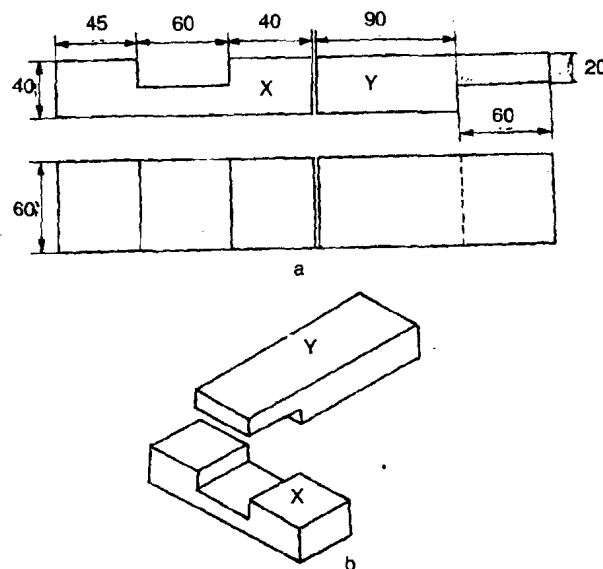

Figure 1.25 : T-Lap Joint
To prepare a T-lap joint as shown in Figure 1.25(b).
- (f) As shown in the Figure 1.25(a) wooden part is cut into two parts according to the dimensions (i.e. 150 mm and 150 mm) with cross-cut saw.
- (f) As shown in the Figure 1.25(a). Wooden part is cut into two parts according to the dimensions (i.e. 150 mm and 150 mm) with cross-cut saw.